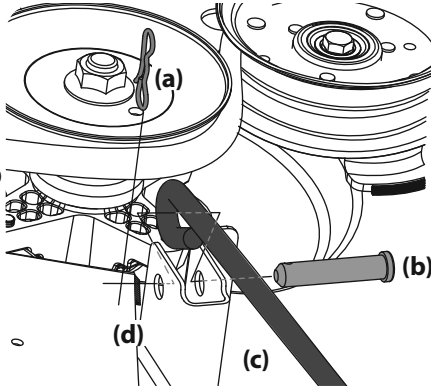

Figure 42
- b. Remove the third bow-tie pin (a) from the clevis pin (b) that secures the front deck control rod (c) to the front deck lift bracket (d). Remove the clevis pin (b). See Figure 42.